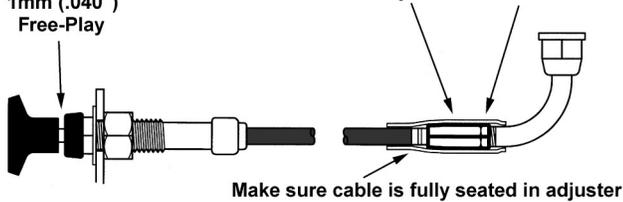

Figure 2: Choke cable adjustments
- Loosen the knurled plastic friction nut behind the choke knob and check for free-play (see Figure 2).